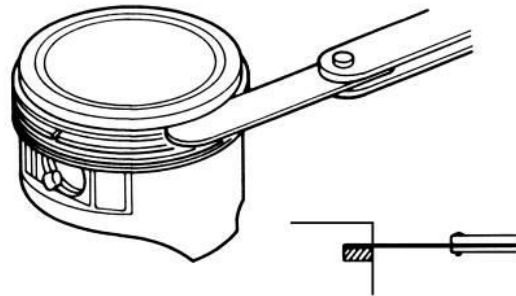

Figure 4-37: Measure Side Clearance
1. See Figure 4-37. Measure piston ring side clearance.